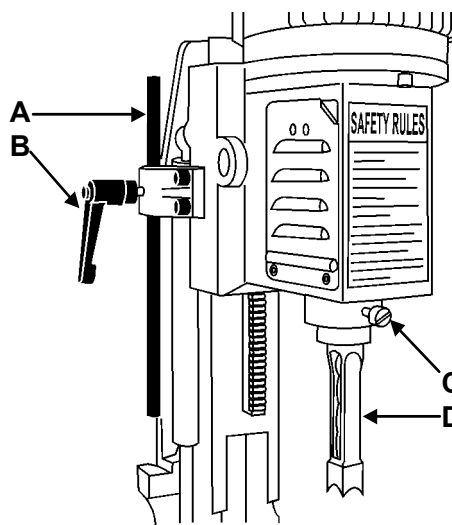

Figure 12
1. Set the *depth stop* (A, Fig. 12) to the required depth of cut. Refer to the *Depth Stop Rod Adjustment* section.